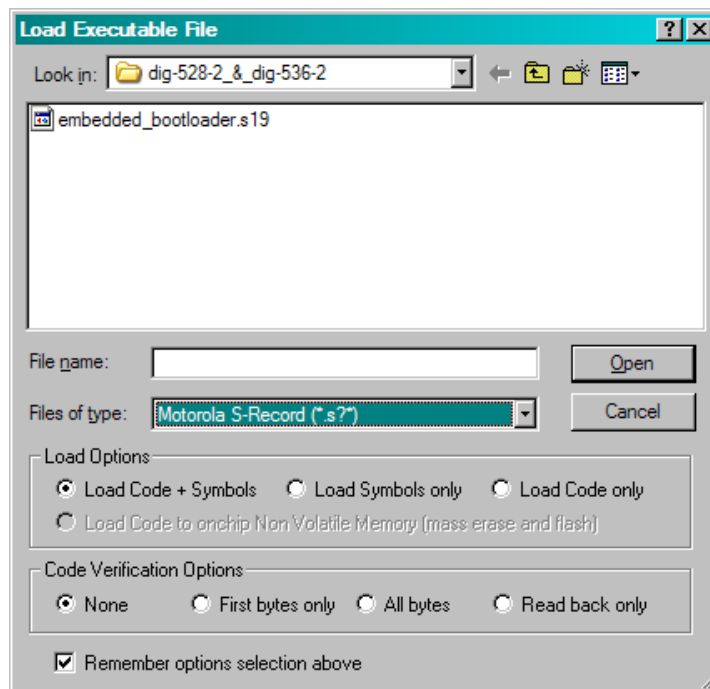

Figure 3-17. Load Executable File Window
- Under the File menu, click on Load Application to open the Load Executable File window as shown in Figure 3-17. Select Freescale S-Record (*.s19) using the Files of type: drop down menu. Navigate to the folder where the Embedded Bootloader.s19 file is located. Select the file and click the Open button.